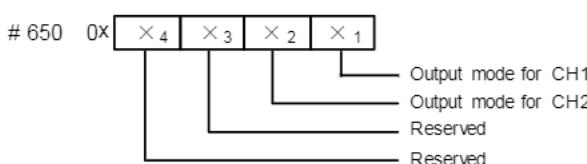

Figure 2-1 Mode setting element vs. channel
4. BFM#650: output mode selection, used to set the output modes of CH1 ~ CH2. See Figure 2-1 for their correspondence.